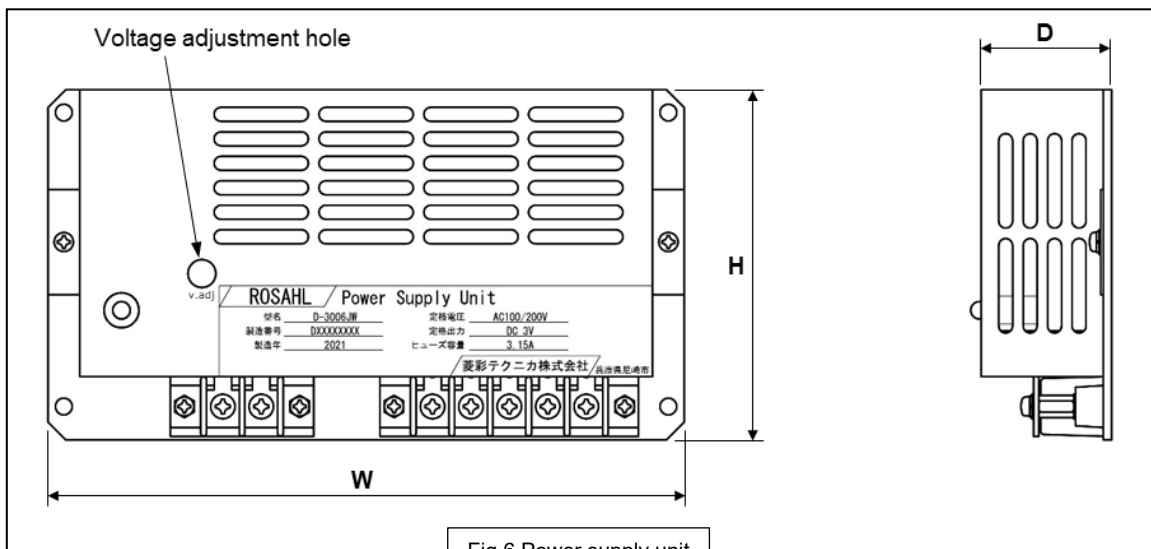

Fig.6 Power supply unit
*The location of voltage adjustment hole, refer to Fig.6 on page 5.